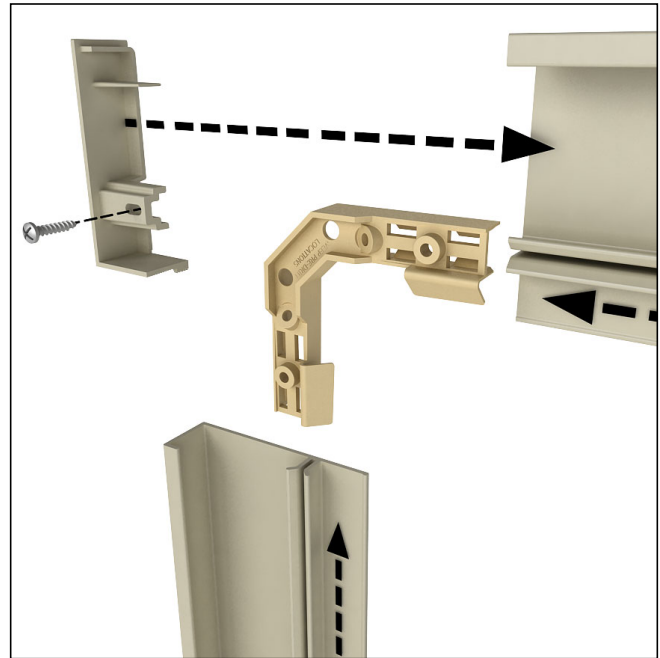

Figure 59
4. Attach end caps to header casing with supplied screws. Align casing with tab on end caps. See *figure 59*.